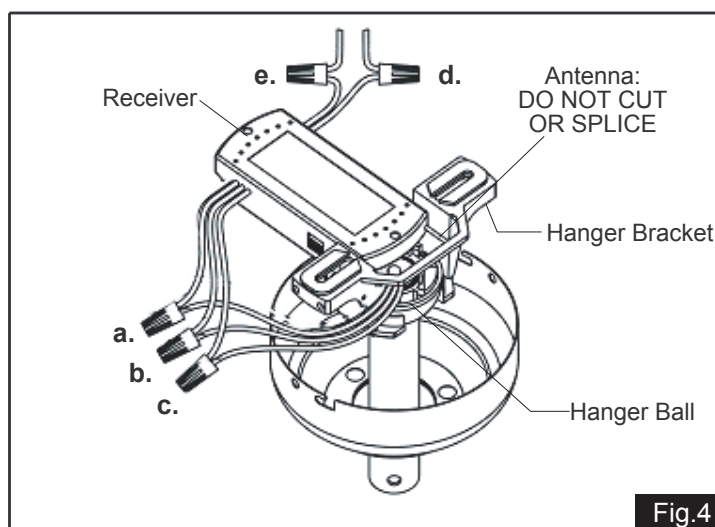

Fig.4
- 4.) Make Wire Connection: (See Fig.4)